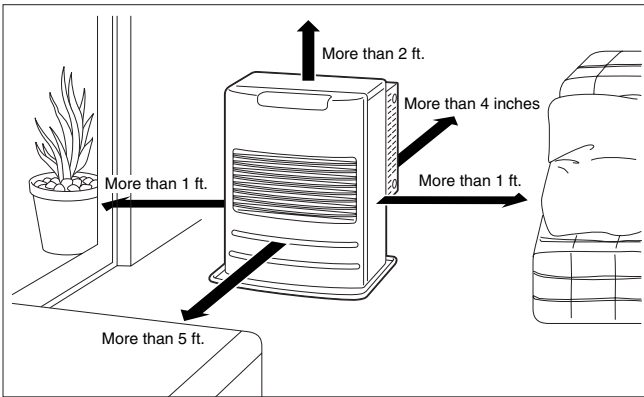

Fig. 1
- 1. Select heater location. Allow clearances as indicated below between heater and all other materials. (See Fig. 1)